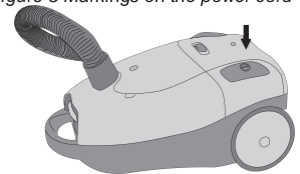

Figure 6 On/Off pushbutton
7. Put the plug in the wall socket, and press the On/Off switch. To switch off the appliance, press the On/Off switch again, see Figure 6.